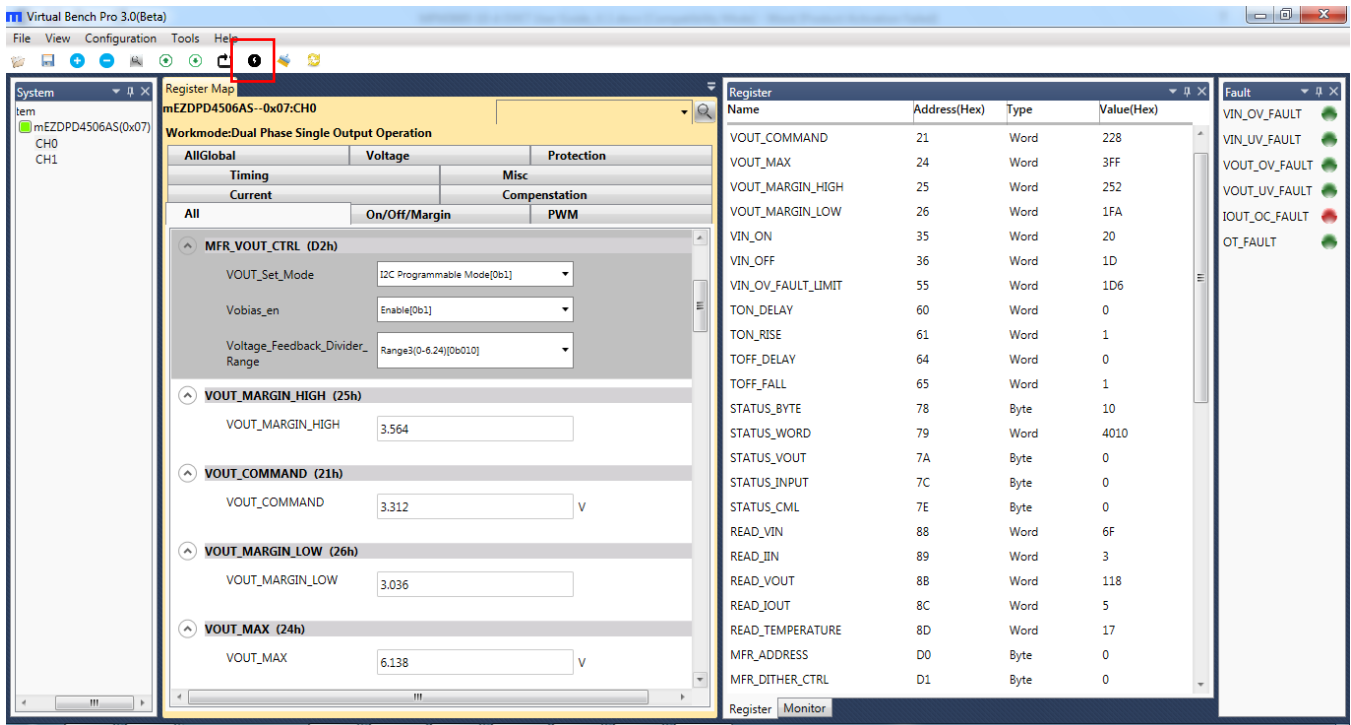

Figure 10: Write to the MTP Memory
4. Click the “Write to MTP” button, and wait until the writing action is completed (see Figure 10).